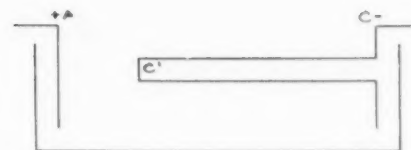

FIG 4
Assume the following simple case, (see Fig. 4.)
Before the investigations of Haring and Blum1 platers spoke vaguely of a mysterious property of solutions, that they called "throwing power." By this property they meant that certain solutions had the ability to deposit or "throw" metal into hollows, recesses and crevices. The factor of evenness of deposit was not considered. Although their definition was not perfect, Haring and Blum were the first to place a numerical value on throwing power. They defined it as a percentage improvement of the actual metal distribution ratio above the primary current ratio. (see Fig. 4). In their investigation, they determined that, as far as the solution was concerned, throwing power depended upon (1) the degree to which polarization increased, with increased current density; (2) the conductivity of the solution; (3) cathode efficiency at different current densities.